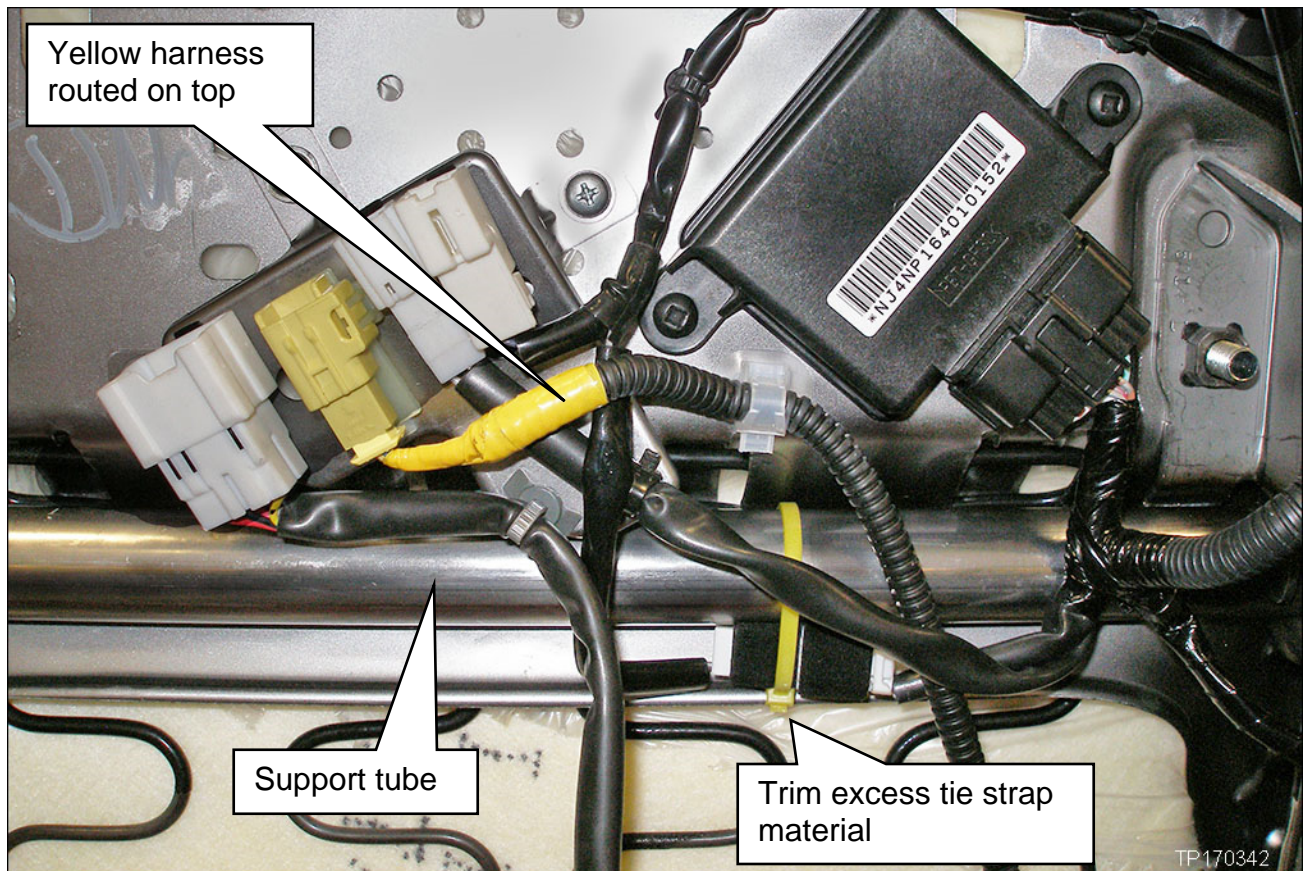

Figure 9
14. Secure the new connector to the seat frame support tube in the location shown in Figure 9.
- Verify harness is routed as shown in Figure 9.